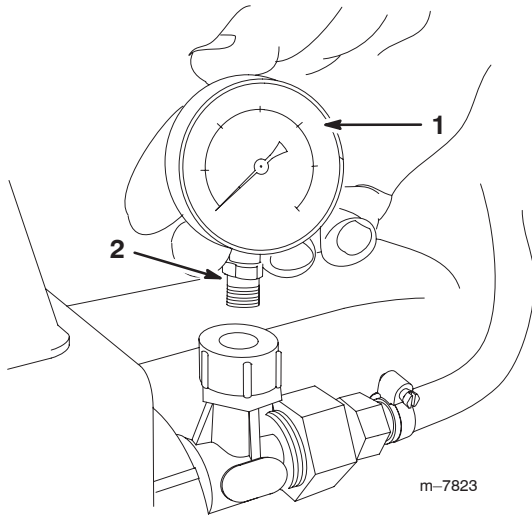

Figure 14
13. Wrap Teflon tape counterclockwise around the threads of the gauge (Fig. 14).
14. Install the pressure gauge into the open port to the right of the control valve (Fig. 14).